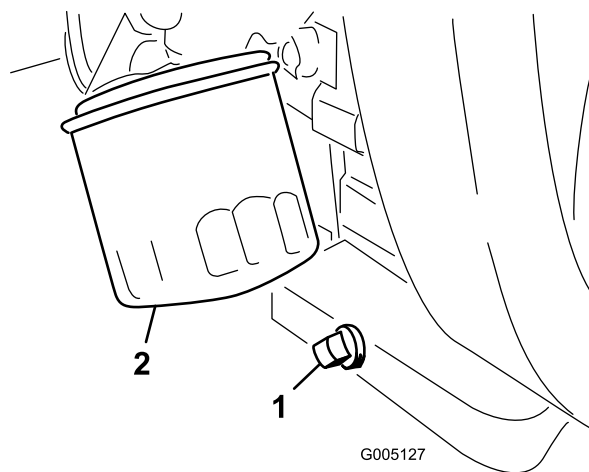

Figure 41
2. Clean the threads of the drain plug, apply PTFE sealant, and install the drain plug (Figure 41).
3. Remove the oil filter (Figure 41).
1. Remove the drain plug (Figure 41) and let the oil flow into a drain pan.